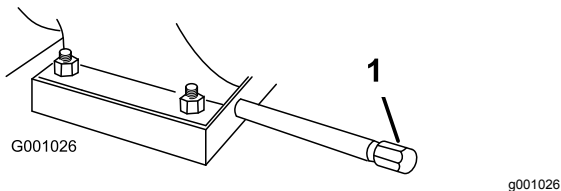

Figure 45
1. Clean the area around the oil-drain cap (Figure 45).